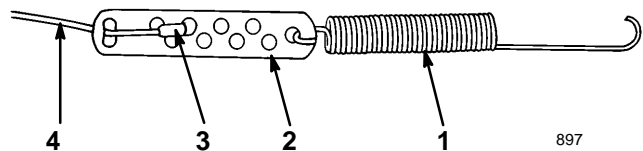

Figure 5
2. Hook the spring to the round hole at the end of the cable adjuster (Fig. 5).
3. Secure the end of the cable to the cable adjuster as illustrated in Figure 5.